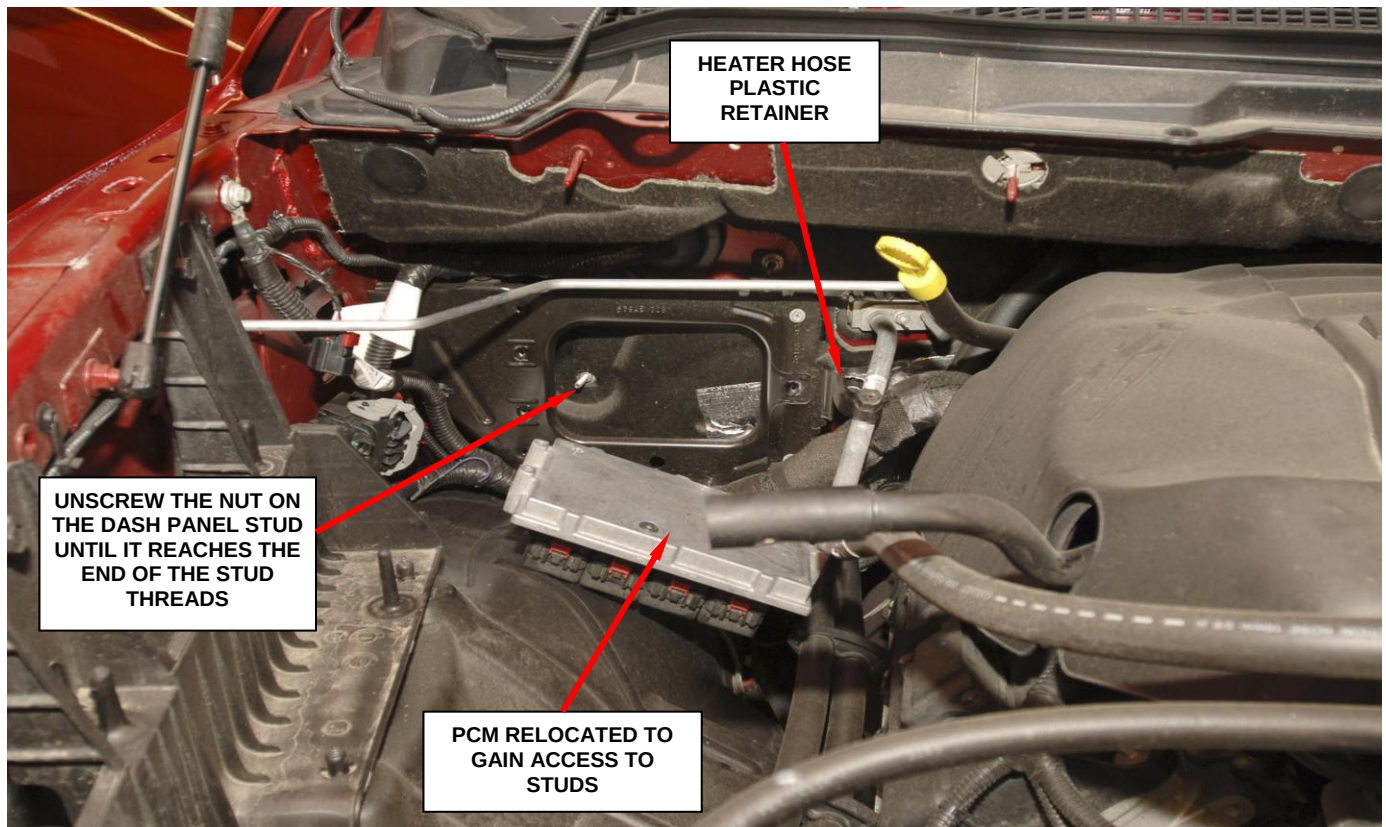

Figure 11 – Relocate PCM
- b. Remove the retaining screws for the Powertrain Control Module (PCM) and set the PCM aside. Do not disconnect the PCM wiring connectors (Figure 11).
- c. Remove the heater hose plastic retainer at the dash panel stud closest to the engine (Figure 11).
- e. Unscrew the nut on the remaining dash panel stud until it reaches the end of the stud threads, but **do not remove the nut** (Figure 11).
- r. Install the heater hose plastic retainer onto the dash panel stud located closest to the engine (Figure 11).
- s. Place the PCM back into position on the dash panel bracket (Figure 11). Tighten the retaining screws securely.